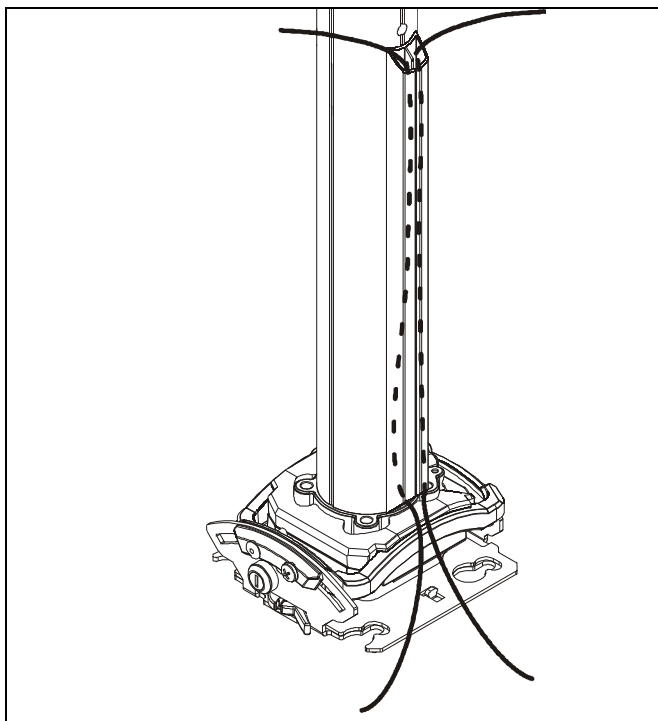

Figure 10
1. Route cables as desired through cover. (See Figure 10)